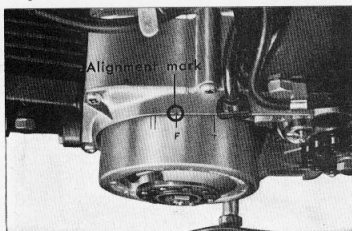

Figure 6-6. Aligning to the "F" mark
- a. Remove the left crankcase cover and align the "F" marking on the flywheel to the timing mark on the crankcase. In this position, check to make sure that the spark is produced across the spark plug points. (Fig. 6-6) Perform this test by removing and placing the spark plug on top of the cylinder head.